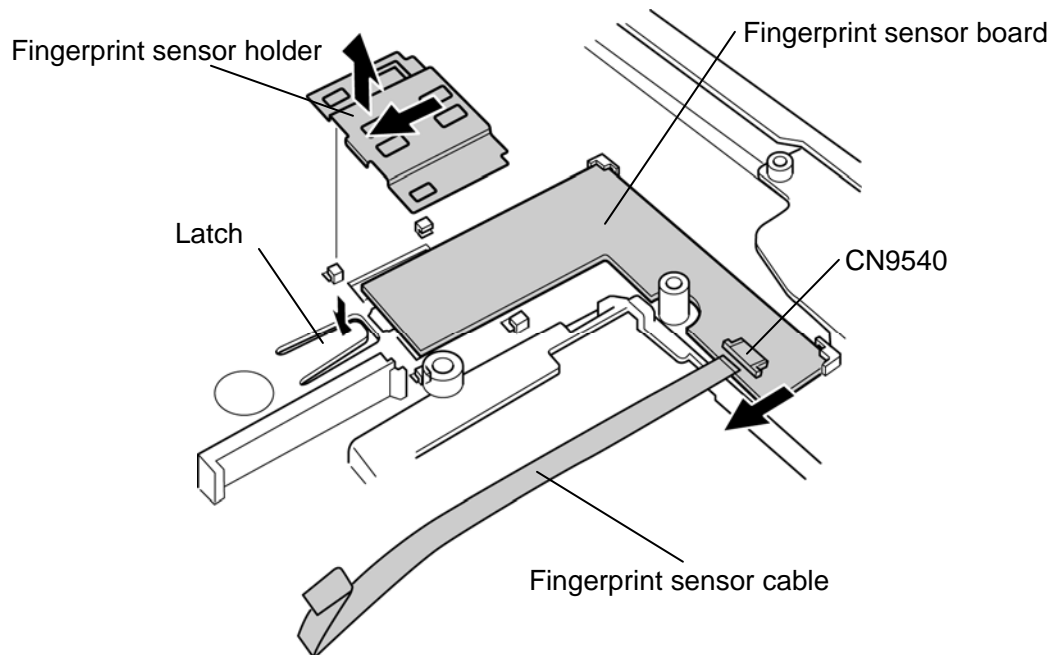

Figure 4-22 Removing the fingerprint sensor board
The following describes the procedure for removing the fingerprint sensor board (See Figure 4-22).
The following describes the procedure for installing fingerprint sensor board (See Figure 4-22).
3. Install the **fingerprint sensor holder** in place and slide it in the opposite direction of arrow in the figure 4-22 while pushing the latch.